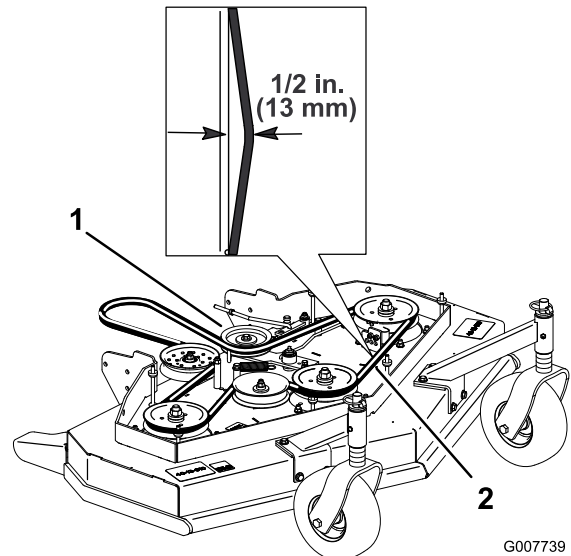

Figure 43
4. Remove the idler pulley and the worn belt (Figure 43).
Note: The proper mower belt tension is 10-15 lbf. (44-67 N) with the belt deflected 1/2 inch (13 mm) halfway between the pulleys (Figure 43).